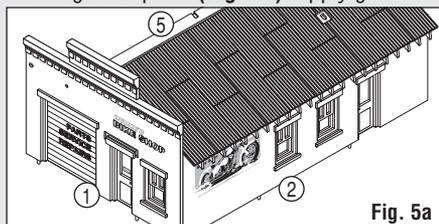
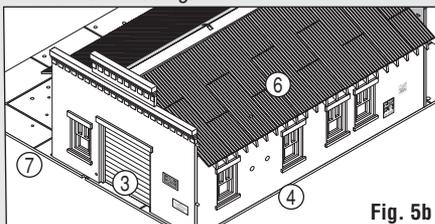

Fig. 5a
Fig. 5b
- Insert tab on Right Wall (2) into groove on backside of Front Wall (1) (**Fig. 5a**).
- Insert tabs on Right Roof Section ⑤ into grooves on backside of Wall ① and align channel with top edge of Wall ② (Fig. 5a).
- Insert tab on Left Wall ④ into groove in Front Wall ①, then attach Left Roof Section ⑥.
- Glue Back Wall ③ into place, positioning tabs into grooves (Fig. 5b).
- Align placement pins on bottom of Building Assembly with placement holes in Base ⑦ and glue in place (Fig. 5b). Apply glue from underneath building.